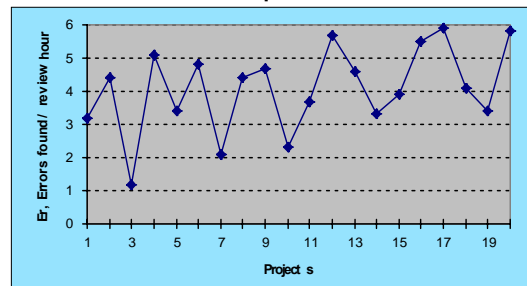
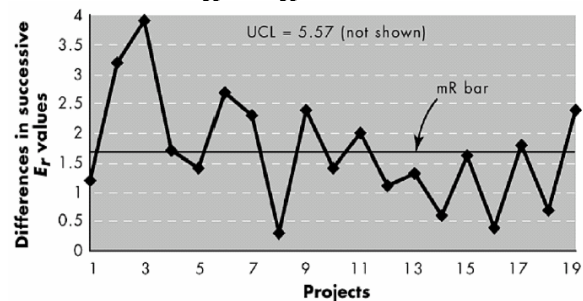
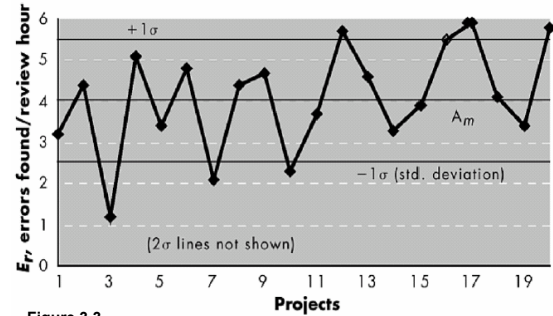

Figure 3.1
Figure 3.2
Figure 3.3
- The resultant values for  $E_r$  are represented in Figure 3.1. In the figure,  $E_r$  varies from a low of 1.2 for project 3 to a high of 5.9 for project 17.
- Using the data represented in figure 3.1 and the steps above, mR control chart shown in figure 3.2 is developed.
1. Plot individual metrics values as shown in Figure 3.1.
- Applying these steps to the data represented in Figure 3.1 - we derive an *individual control chart* as shown in Figure 3.3